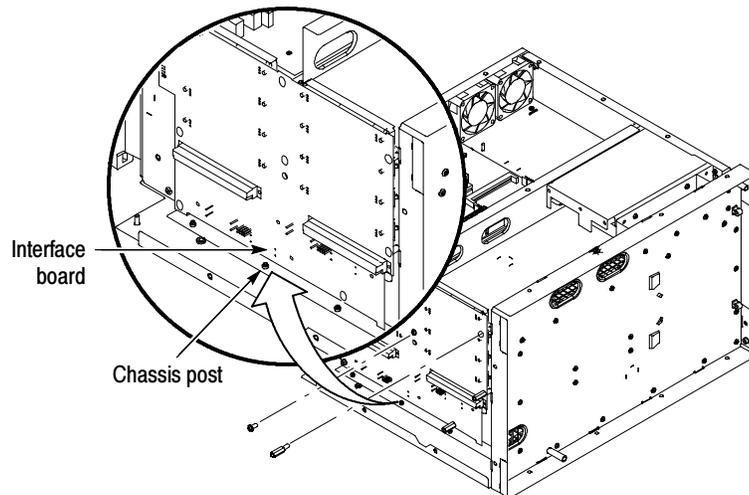

Figure 8: Removing the backplane
6. Slide the backplane under the chassis post as indicated in Figure 8 on page 13.